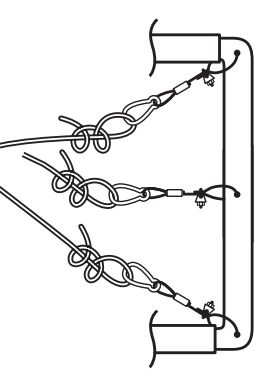

Figure 1
3. After hanging the net on the middle frame section, making sure that it does not sag more than 1'-2", pull the ropes towards the end frames to stretch it out. Attach each rope to the end frame sections with the corresponding hanging-loop assemblies. **See Figure 1.**